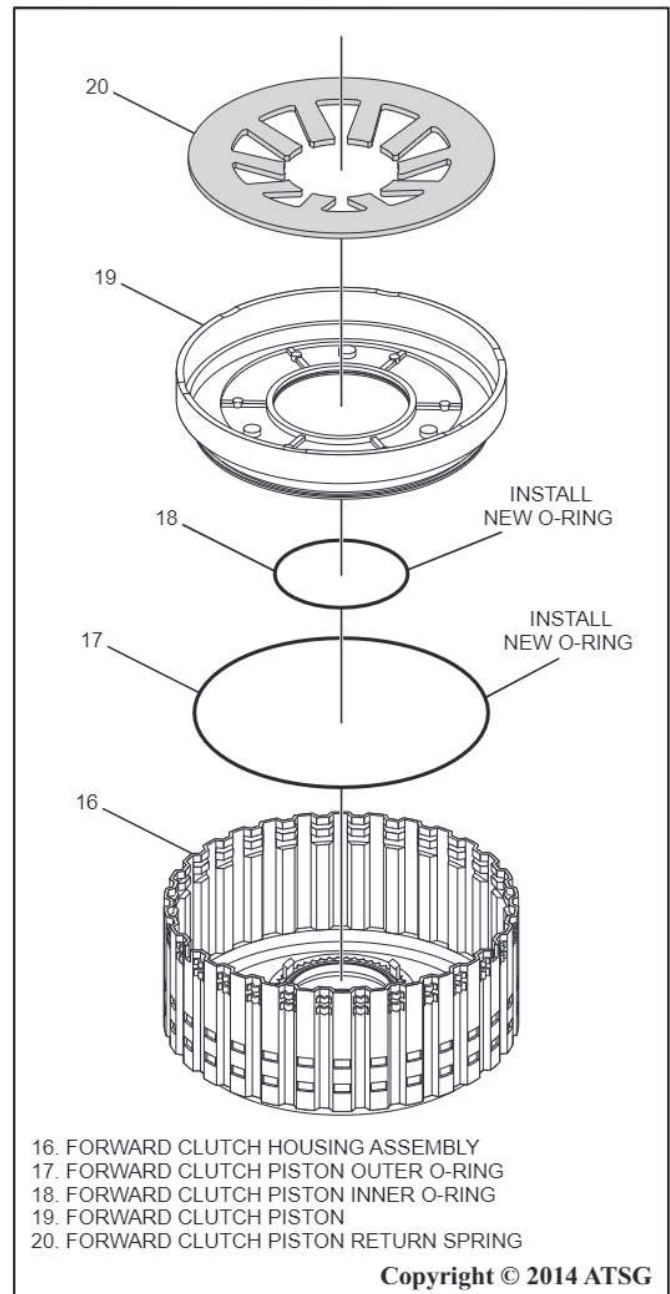

Figure 87
37. Install a new inner o-ring and outer o-ring seal into the forward clutch piston then coat the seals with a small amount of ATF or Trans-Jel® as shown in Figure 87.
38. Install the forward clutch piston into the forward clutch housing as shown in Figure 87.
39. Install the forward clutch piston return spring into the forward clutch housing as shown in Figure 87.